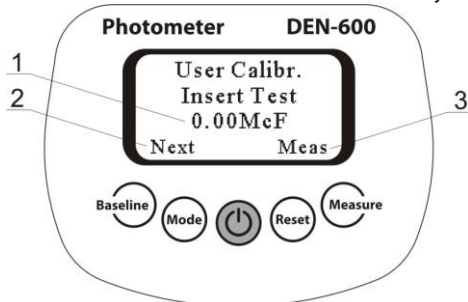

Figure 3. Creating user calibration
5.7. **Creating McF user calibration** (Figure 3).
- 5.7.6. Press **Baseline** key 5 times in McF mode to enter user calibration regime (Figure 3).
- 5.7.7. Insert the required McF standard (fig. 3/1) into the socket and press **Meas (Measure key)**. If the required standard is not available press **Next (Baseline key)** to skip to the next standard.